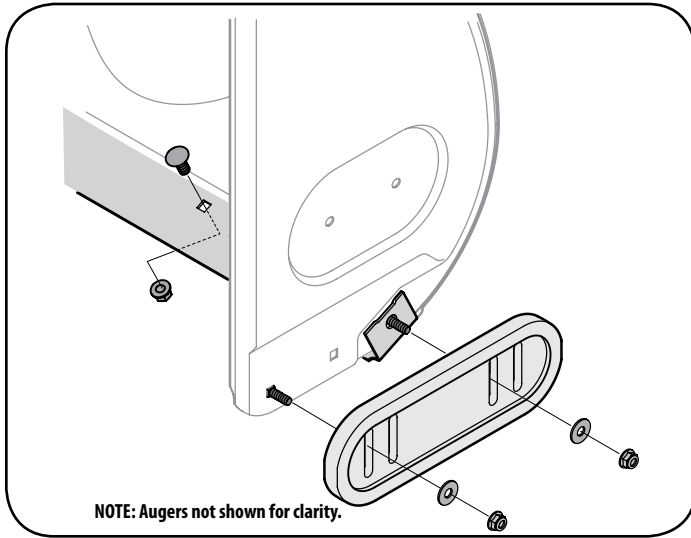

Figure 47
2. Reassemble new skid shoes with the four carriage bolts (two on each side), washers, and hex flange nuts. Refer to Figure 47.
2. Reassemble new shave plate, making sure heads of carriage bolts are to the inside of housing. Tighten securely. See Figure 47.